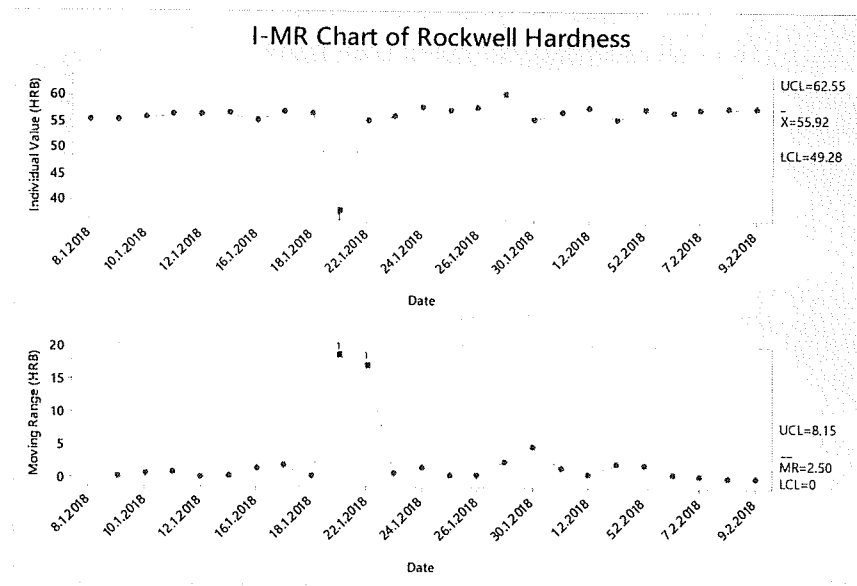

Figure 3 – I-MR charts of hardness measured on steel sheets
- [b] (i) As shown in Figure 3, control charts have been setup by a process engineer to monitor the hardness of steel sheets produced by cold rolling. Comment on the stability of process based on the statistical process control point of view.